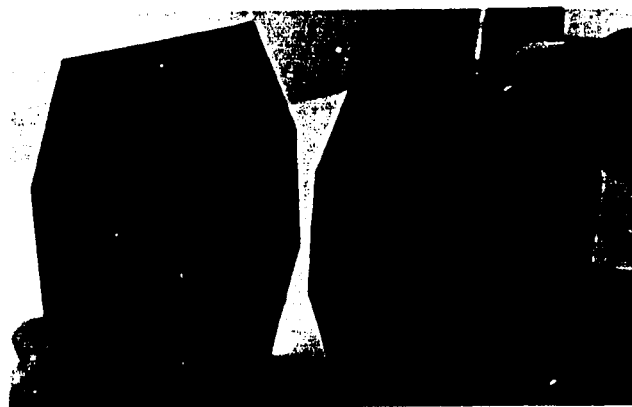

Fig. 82-1. Preparing to Check the Accuracy of the Component Part with the Template of that Part.
1. Place the base-bottom inspection template on a flat lamp-base component. See Fig. 82-1.